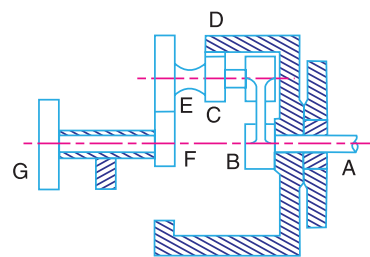

Fig. 13.38
9. An epicyclic reduction gear, as shown in Fig. 13.38, has a shaft A fixed to arm B . The arm B has a pin fixed to its outer end and two gears C and E which are rigidly fixed, revolve on this pin. Gear C meshes with annular wheel D and gear E with pinion F . G is the driver pulley and D is kept stationary. The number of teeth are : $D = 80$; $C = 10$; $E = 24$ and $F = 18$.